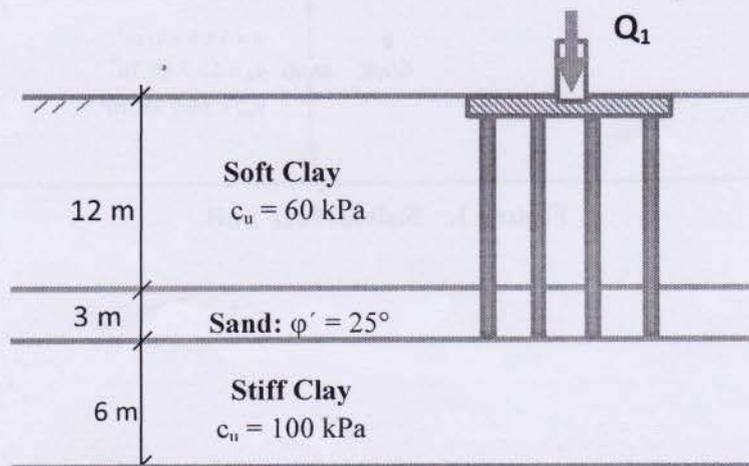

Figure 3
3. The arrangement of 16 piles (in a group) and the soil profile are shown in Figure 3. Pile spacing is 0.75 m (c/c). 20